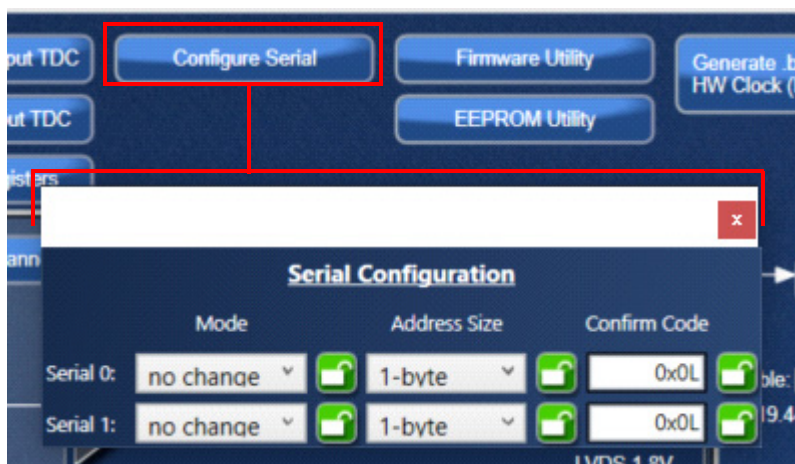

Figure 23. Serial Configuration Window
- Two serial ports exist in the device (see Figure 23)